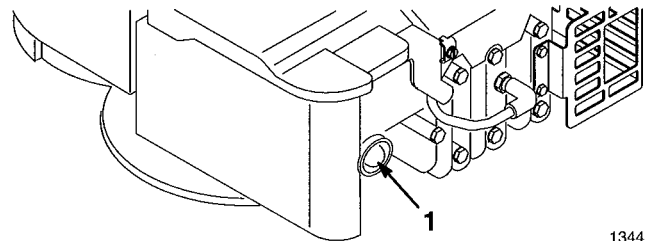

Figure 7
3. Push primer three (3) times (Fig. 7). **Wait about two (2) seconds between each push.**